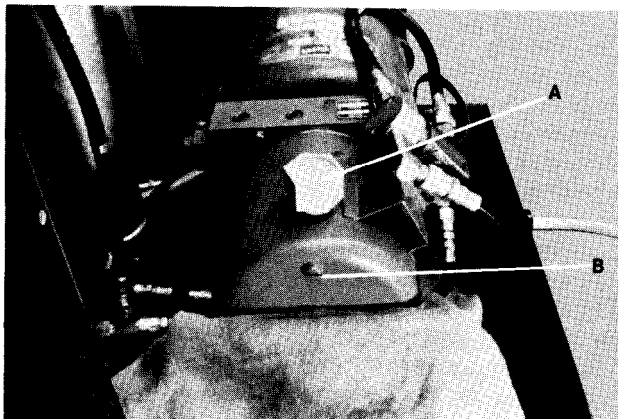

Fig. 18
- 2) Remove plastic filler cap, Item A, Fig. 18, on top of tank.
- 3) Remove small screw, Item B, Fig. 18, from end of tank and place a rag under this screw hole.
- 5) Replace small screw, Item B, Fig. 18, in end of tank.
- 6) Replace plastic filler cap, Item A, Fig. 18.